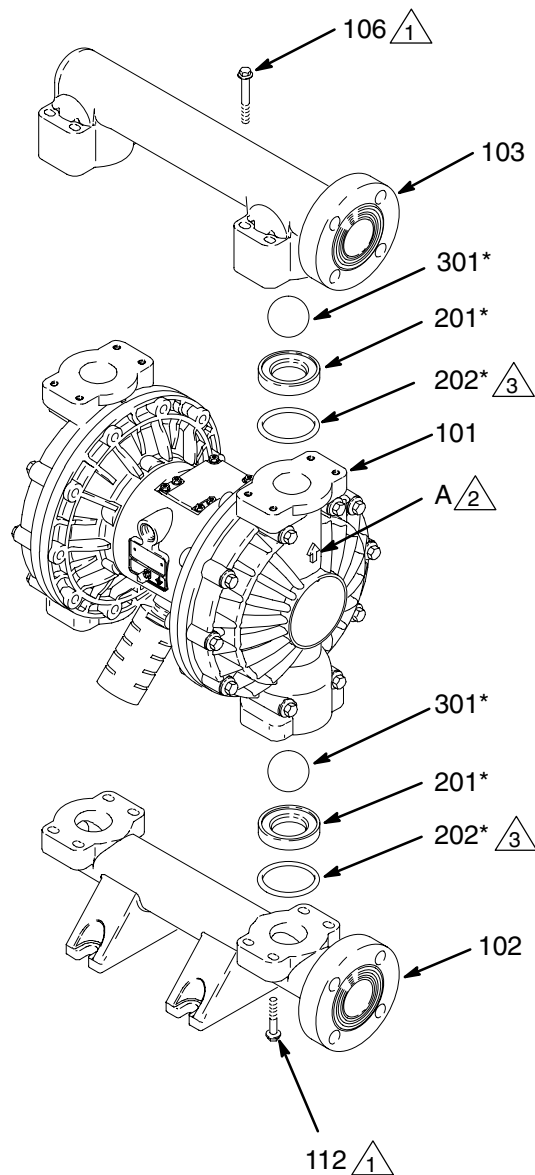

Fig. 11
3. Using a 10 mm socket wrench, remove the eight bolts (106) holding the outlet manifold (103) to the fluid covers (101). See Fig. 11.
4. Remove the seats (201), balls (301), and o-rings (202) from the manifold.
2. Reassemble in the reverse order, following all notes in Fig. 11. Be sure the ball checks are assembled **exactly** as shown. The arrows (A) on the fluid covers (101) **must** point toward the outlet manifold (103).
- 2  Arrow (A) must point toward outlet manifold (103).